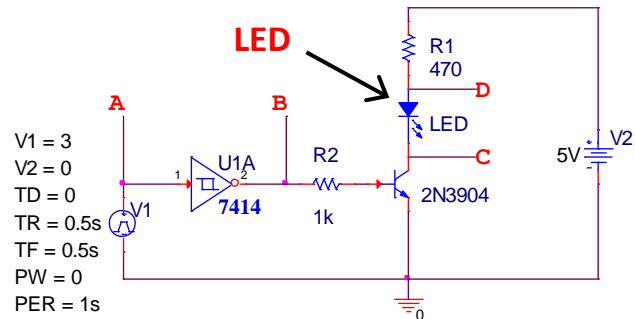

Figure D-4.2
- **Build the circuit in Figure D-4.2 on your protoboard. For the transistor, use the 2N3904 in your Parts Kit.**
LTspice & M2k/Analog Discovery Plots for Figure D-4.2: For completeness, the input voltages for *LTspice* (D-4.2.1) and M2k/Analog Discovery (D-4.2.2) are shown below. Remember that digital devices (logic gates, etc.) work with input and output voltages between 0V and V_{CC} . Thus, the input voltages should not go negative. For the *LTspice* results, the net alias feature was used so that the measured voltages can have well-defined and easy to recognize names. It is a good idea to use this feature if you can.